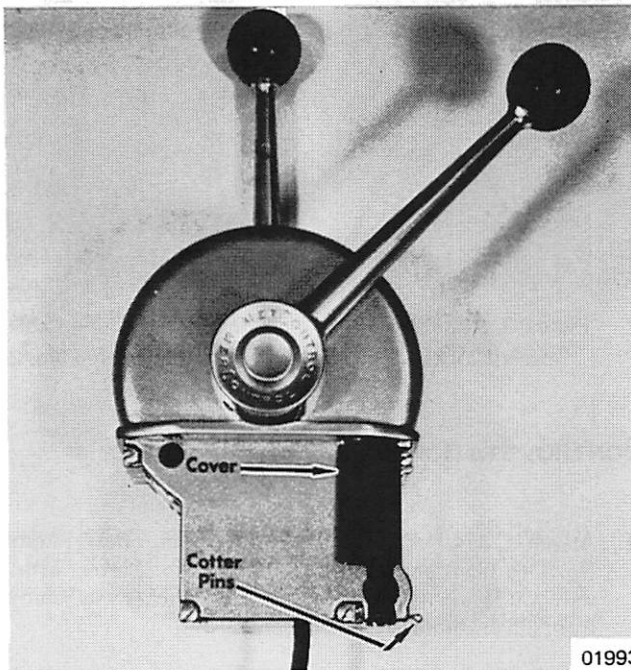

Figure 1. Cotter Pins and Cover Location
2. Remove cotter pins and covers from control housing. (Figure 1)